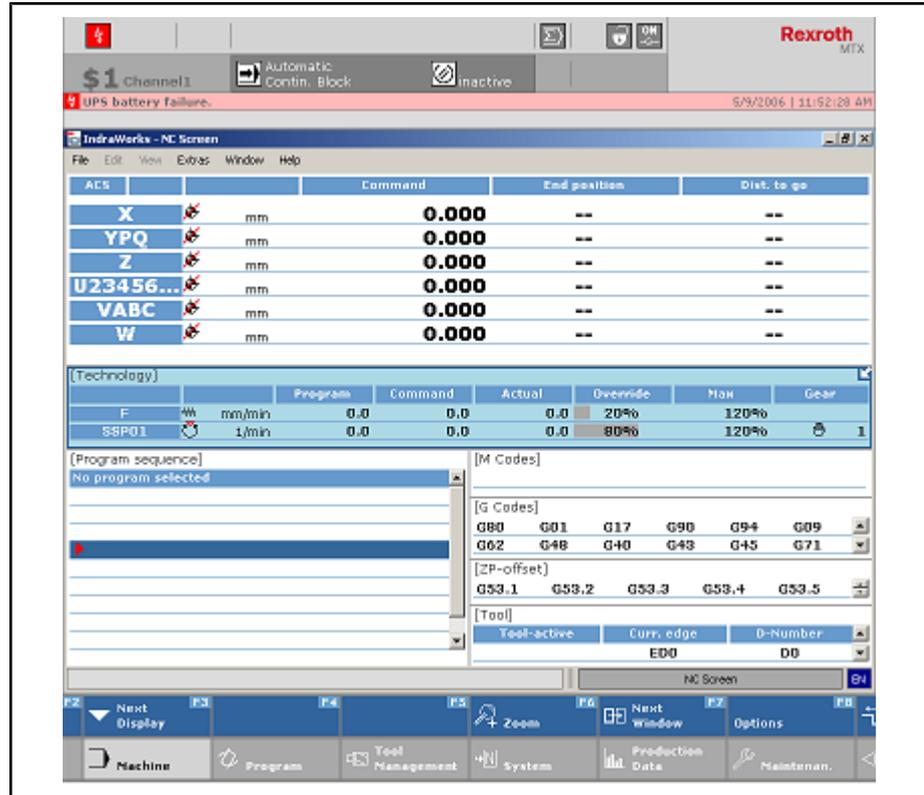

Fig.7-47: Technology display (blue background)
18. If you press <F2>, scroll through the variants selected with a checkmark. However, note that the technology display must be selected, i.e. must be highlighted in blue (as shown in fig. 7-47 "Technology display \(blue background\)" on page 168), to do this.